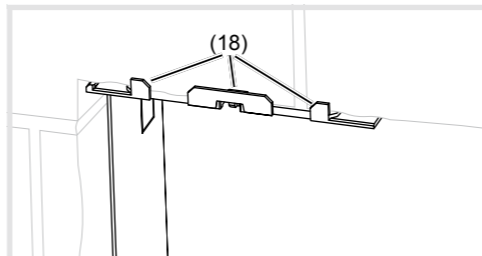

Figure 5: Installation position of fastening elements
- (16) 5.5 mm socket wrench
- (17) Fastening elements
- The support bracket (18) of the fastening elements must be located on the wall surface (Figure 5).